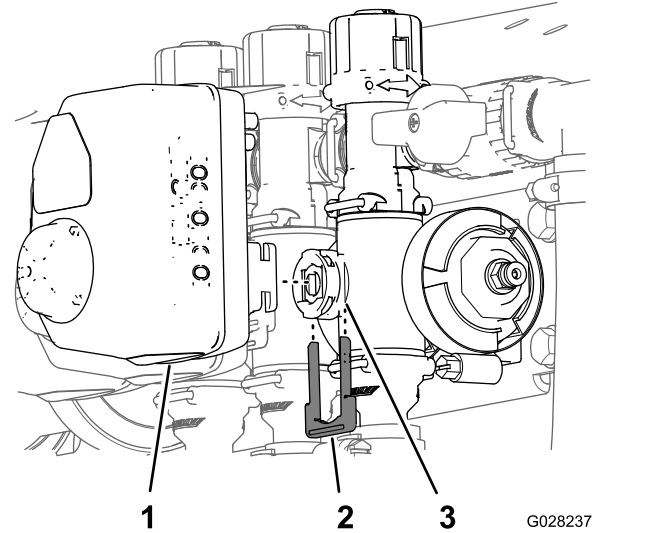

Figure 109
3. Remove the retainer that secures the a actuator to the manifold valve for the rate control valve, agitation valve, master-boom valve, or boom-section valve (Figure 109).